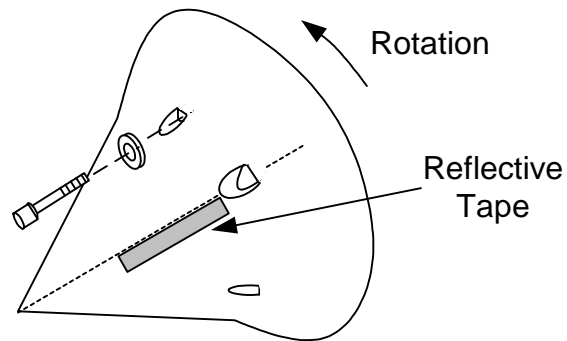
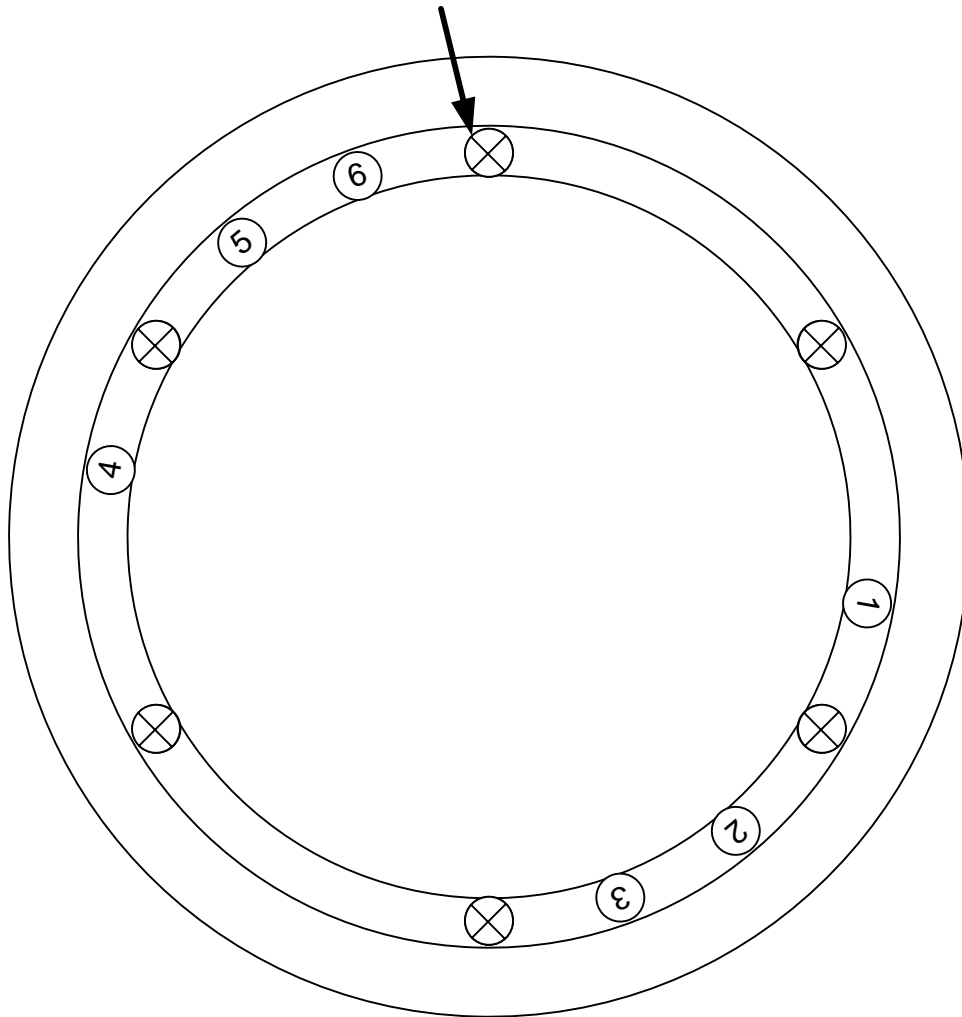

Figure 1. Reflective tape installation on spinner.
Figure 4. Screw weight holes and spinner mounting holes (marked with "X") as viewed from the aft side of the spinner.
- Remove the spinner by removing the six spinner attaching bolts. Remove all previously installed fan trim balance screw weights from the back side of the spinner. Locate either of the two attaching bolt holes that have two screw weight holes counterclockwise from their position on the aft side of the spinner. (See figure 4 below). On the outside of the spinner, make a small mark at the selected hole so that it can be identified later as the index (0 degrees location) then reinstall the spinner on the engine using the reference match-mark to insure it is being reinstalled in the same position.
- Cut a two to three inch length of reflective tape (included with the lasetach II, item 6.).
- Remove the backing from the reflective tape and attach it to the spinner on the cleaned area of and along a line beginning at the forward edge of the spinner attaching bolt hole and extending toward the spinner tip. The tape should be positioned so that the leading edge (the edge toward the direction of rotation) is parallel to and aligned with a line between the bolt hole and the spinner tip as shown in Figure 1. below. Make sure there are no bubbles in the tape and that all edges are firmly pressed down and attached to avoid lifting and blowing off
during engine runs. The bolt hole in line with the leading edge of the tape is now designated as “0” degrees or the index for the purpose of locating hole numbers for adding trim balance weights. (See figures 1., 2 and 3 below).